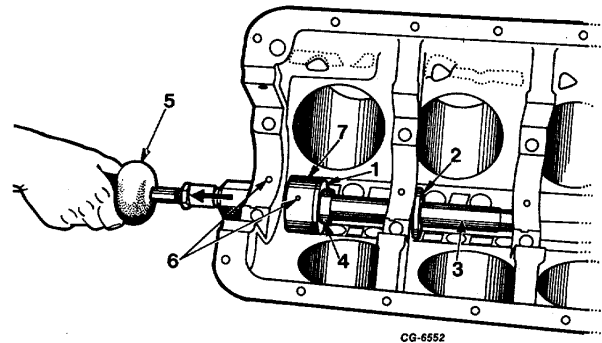

Fig. 88 Installing Front Camshaft Bearing
7. Remove bar and front adapter. Position new bearing on front adapter with chamfered side toward case. Slide bar into case and through second adapter serving as a pilot (Figure 88).
8. Align oil holes and in front bearing (Figure 88).